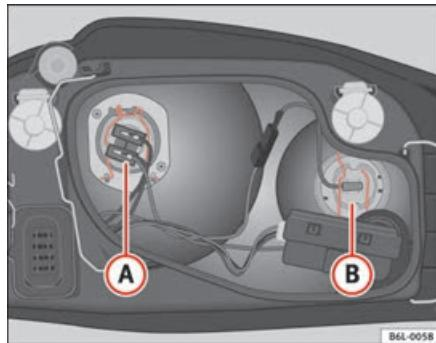

Fig. 152 Dipped head-light lamp
- Remove the lamp cable connector (A ⇒ fig. 152).